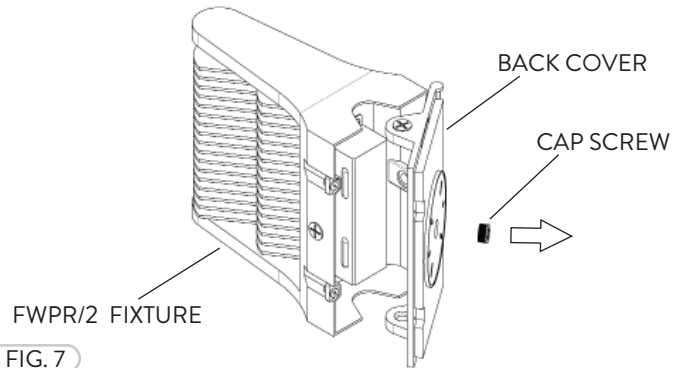

FIG. 7
- 2 Remove the Cap Screw from the Back Cover of the FWPR/2 fixture (Fig. 7).